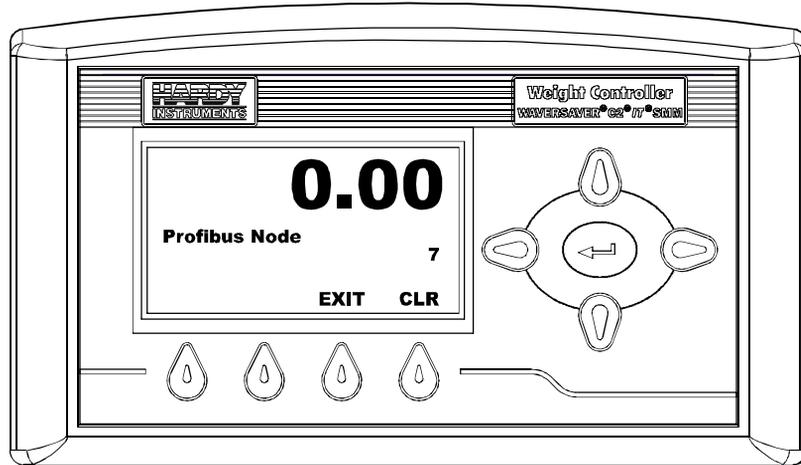

FIG. 174 PROFIBUS MENU/SELECTING NODE ADDRESS #7
- Step 8. Use the up or down arrows to set the value and the left or right arrow buttons to move the cursor left and right. In our example we set the Node Address at #7. (See Fig. 174)